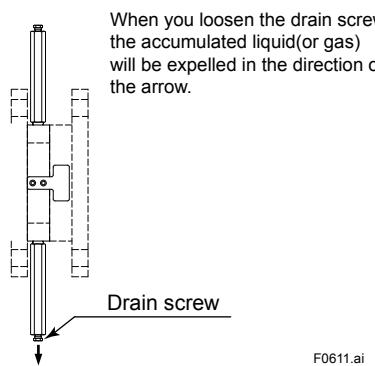

Figure 6.7 Draining for Flushing Connection Ring
- 1) Gradually open the drain screw to drain from the flushing connection ring.(See figure 6.7.)